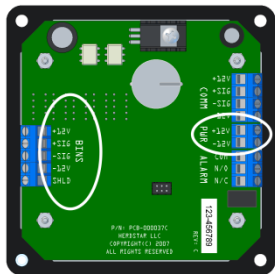

Figure 8
- Insert the wires into the terminal block where RED is +12V, GREEN is +SIG, WHITE is –SIG and BLACK is -12V. (Figure 8)